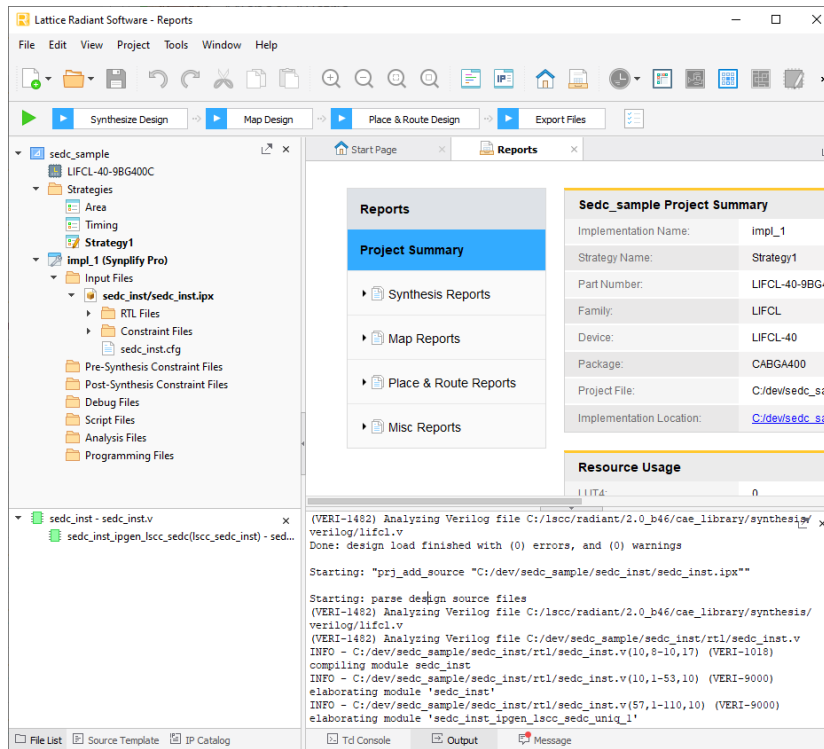

Figure 3.4. SEDC File List
5. Click **Generate**. After generation, the IP is automatically added on the active project as shown in Figure 3.4.